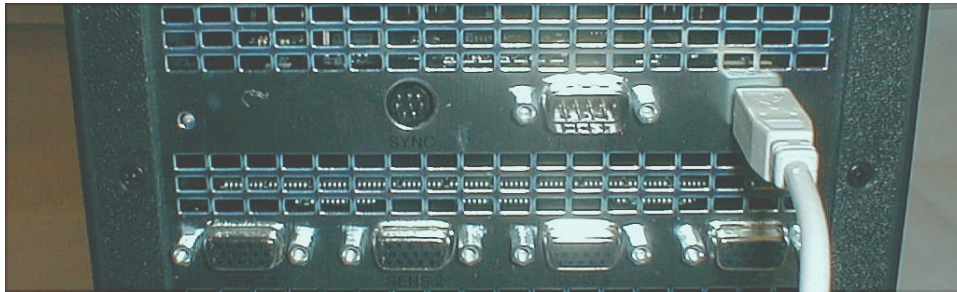

Figure 1-7 USB Cable Connection
8. Identify the USB cable and insert it into the receptacle as shown in Figure 1-7. Connect the other end of the USB cable to the host computer.